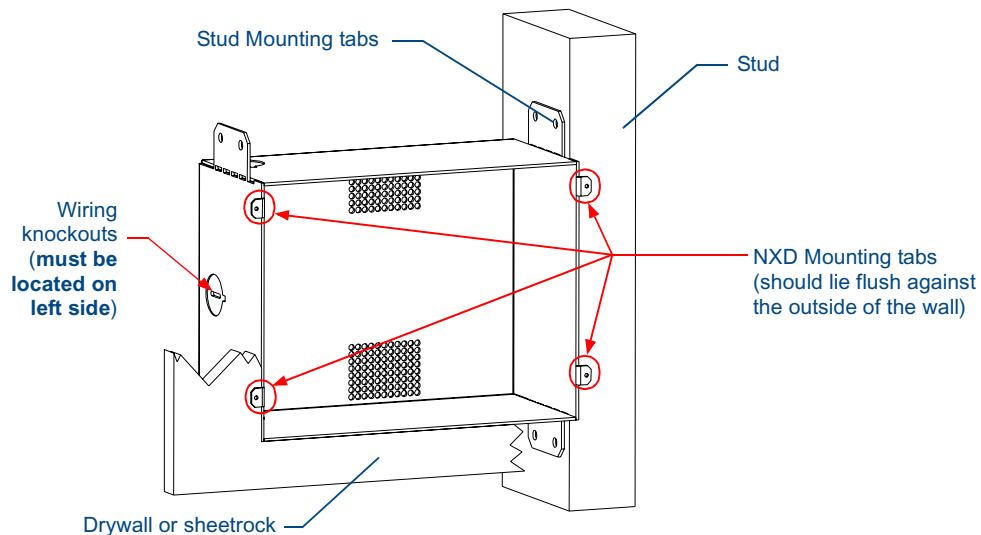

FIG. 36 CB-TP7 rough-in box components
The CB-TP7 is an optional metallic box that is secured onto a stud/beam in a **pre-wall** setting (*where no walls are present*). Installation procedures and configurations can vary depending on the installation environment. This section describes the installation procedures for the most common installation scenario. The most important thing to remember when mounting this rough-in box is that the NXD-CV7 Mounting Tabs must lie flush against the outside of the sheetrock (FIG. 36).
2. Fasten the CB-TP7 rough-in box to the stud through the holes on the right Stud Mounting tabs (FIG. 36), using either nails or screws.
3. Remove the wiring knockouts from the left side of the rough-in box (CB-TP7) (FIG. 36) to accommodate the cables being threaded through to the NXD touch panel.